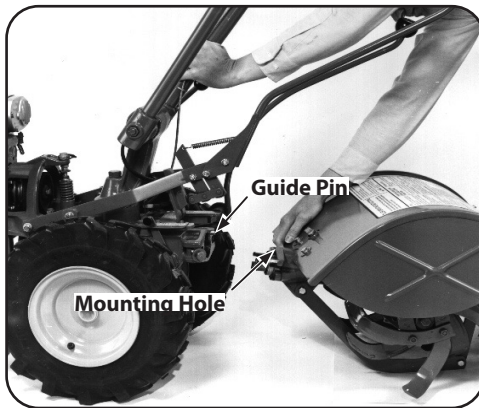

Figure 4-23
9. Tip the PTO power machine forward about one inch with one hand while pulling the tine attachment back. See Figure 4-23.